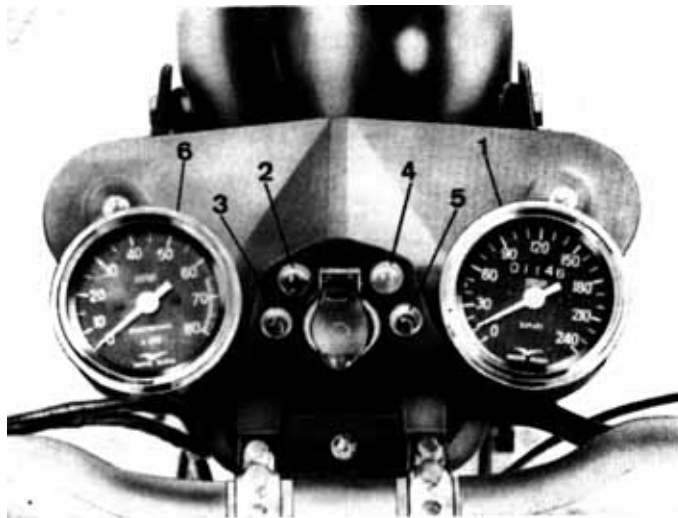

Fig. 6
**Ignition key (See fig. 6/1)**